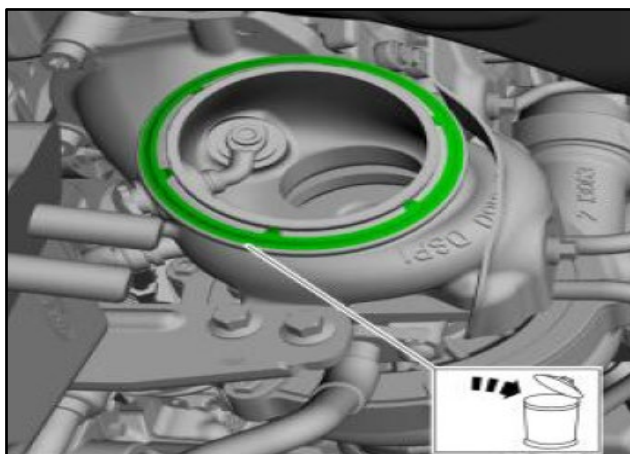

FIGURE 10
10. Replace the turbo to DPF gasket. Refer figure 10